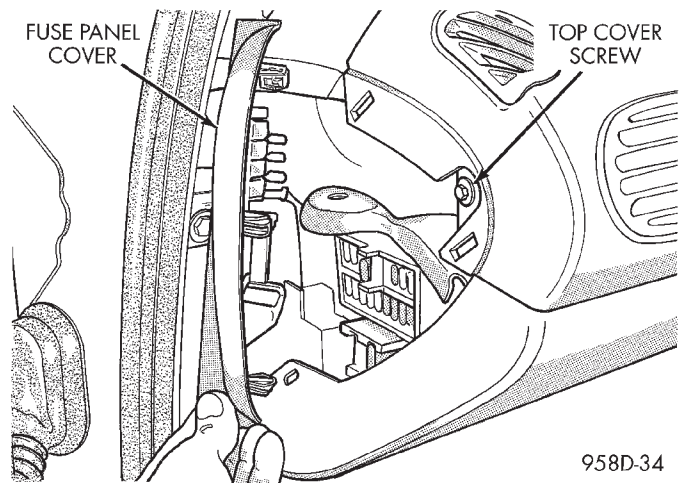

Fig. 54 Instrument Panel Top Cover—Left End
- (1) Disconnect negative cable from auxillary jumper terminal on driver's side strut tower.
- (2) Remove fuse panel cover from left end of instrument panel. Remove screw holding end of instrument panel top cover (Fig. 54).